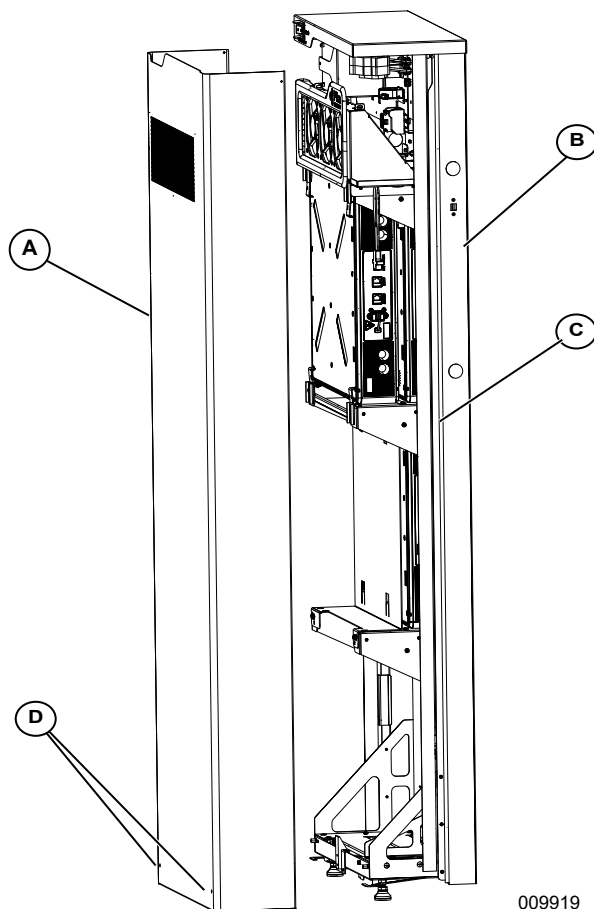

Figure 4-23. Installing Front Cover
1. See Figure 4-23. Place cover (A) upright in front of unit.
2. Slide cover straight back until it engages with body (B).
3. Verify all angled guides are tucked inside body. The back edges of the cover should be against the rubber gasket along their entire length (C).
1. See Figure 4-23. Remove the two M4X16 mm SEM (D) securing cover (A) to body (B).
See Figure 4-23. Inside of the PWRcell battery, battery modules are stacked 2-deep on three levels, allowing for up to 6 modules to be connected in a series. In systems with less than 6 modules, a PWRcell battery can be upgraded with additional modules up to a total of 6 modules.